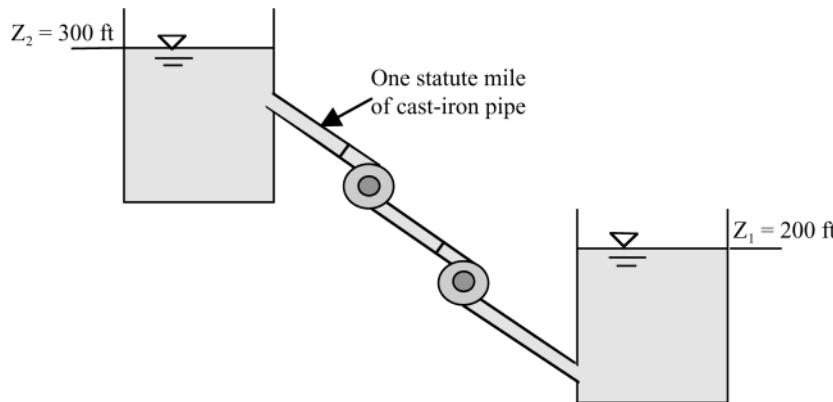

Fig. P11.75
**11.78** Suppose that the two pumps in Fig. P11.75 are instead arranged to be in *series*, again at 710 rpm? What pipe diameter is required for BEP operation?